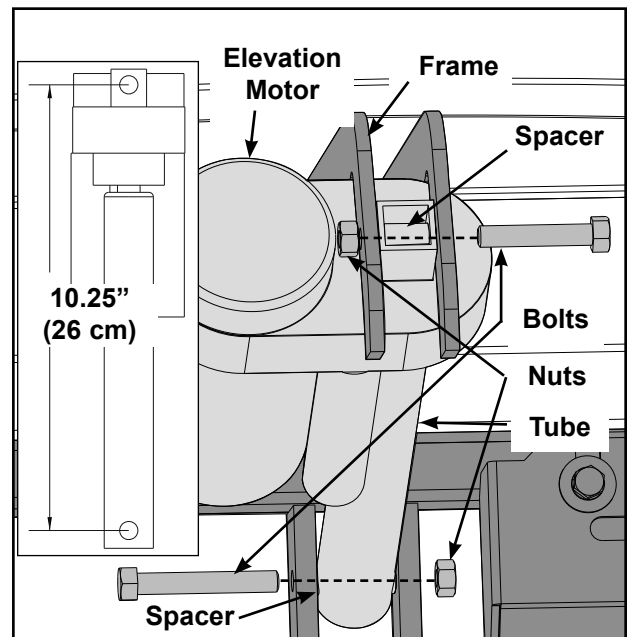

Figure 23
- Slide the top bolt and spacer into the slots and attach the hex nut as shown in Figure 23. Connect the elevation motor to the lower board. Plug the unit into the outlet. Turn the power switch to ON (I). The elevation motor motor will automatically set to 0%.
- Turn the tube with fingers until it measures 10.25" (26 cm) from the center of the top hole to the center of the bottom hole. See Figure 23.
- B. Slide the bottom bolt and spacer into the slots and attach the hex nut as shown in Figure 23.